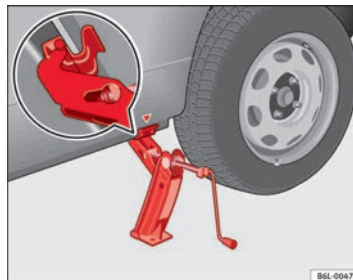

Fig. 138 Fitting the jack
- Align the jack so that the arm of the jack fits around the rib under the door sill and the movable base plate of the jack is flat on the ground ⇒ Fig. 138.